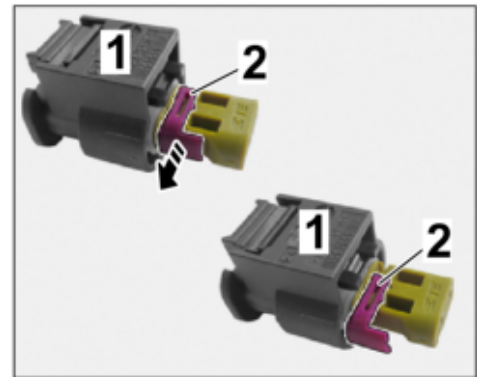

Figure 28
2.5.3 Release (2-pin) plug socket (⇒ Figure 28).
Control CAN drive LOW = OG/BN; 0.35 ²	Unpin socket from chamber 13 \Rightarrow Insert into chamber 1 of plug socket (2-pin \Rightarrow Figure 28)
Control CAN drive HIGH = OG/BK; 0.35 ²	Unpin socket from chamber 14 \Rightarrow Insert into chamber 2 of plug socket (2-pin \Rightarrow Figure 28)
Lock the plug socket (black, 2-pin) (\Rightarrow Figure 28).